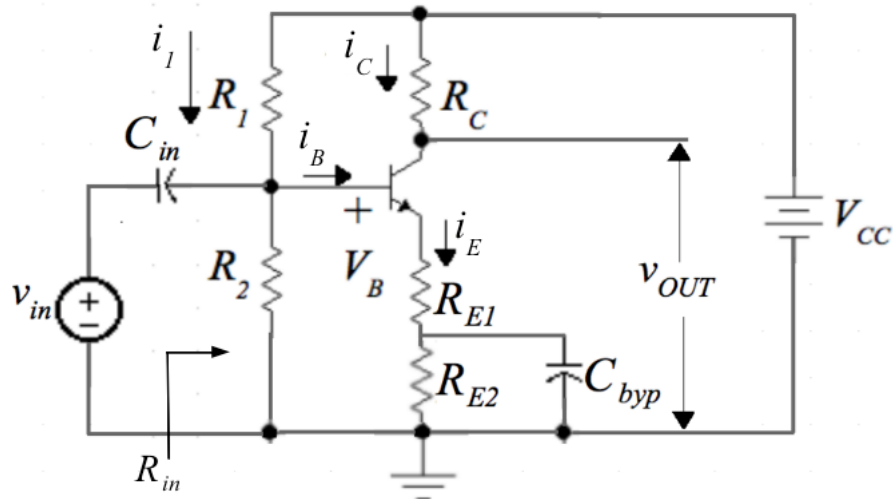

Fig. 1 Voltage Source Biasing
4.1 Design a transistor amplifier using the circuit shown in the Fig. 1 below. Determine values of the resistors, R_C , R_E , R_1 , and R_2 to satisfy the following constraints with $V_{CC} = 10 \text{ V}$: